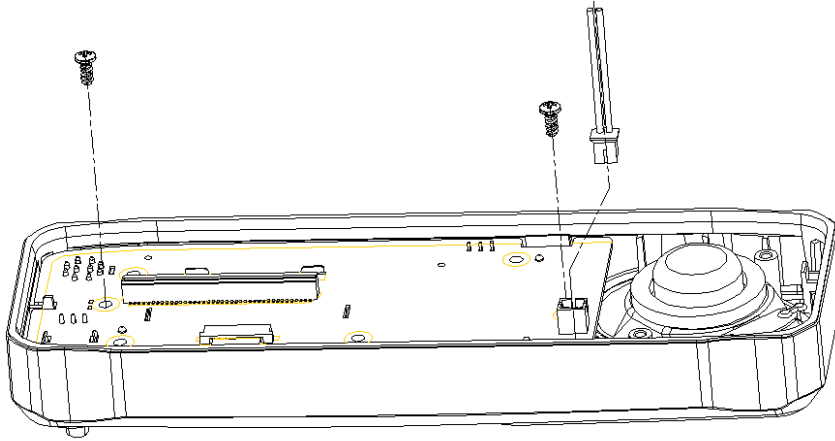

Figure 5.9
- (1) Remove black and white twisted wire plug, unscrew 2 self drive screws as per Figure 5.9.